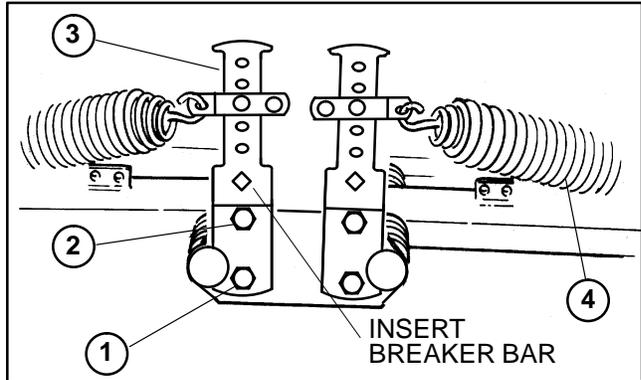
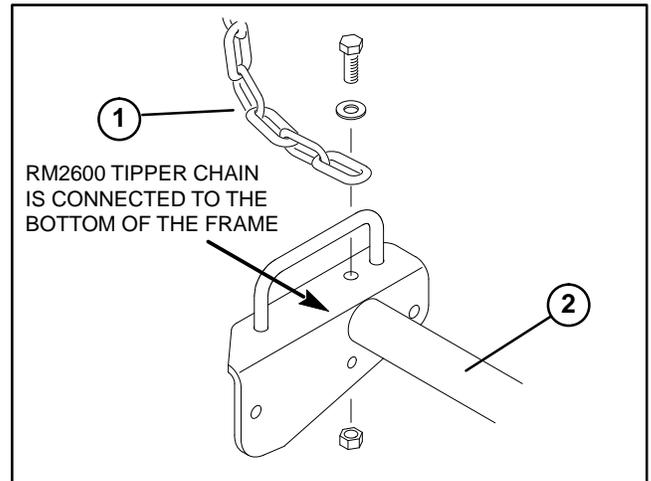

Figure 15
Figure 18
## Cutting Unit Removal and Installation (Fig. 15 through Fig. 18)
3. Loosen top cap screw. Put breaker bar in the square hole and hold tension of spring (Fig. 15).
4. Remove bottom cap screw and slowly relieve the remaining tension on the spring (Fig. 15).
8. Disconnect tipper chain on front carrier frame (Fig. 18). Slide carrier frame off the pivot rod.
3. Connect tipper chain to the front carrier frame (Fig. 18).
6. Insert a breaker bar into the square hole in the counterbalance arm, and pivot the counterbalance arm back to its original position aligning the cap screw hole (fig. 15).
7. Secure bottom of counter balance arm to frame with the bottom capscrew. Tighten top cap screw (Fig. 15)